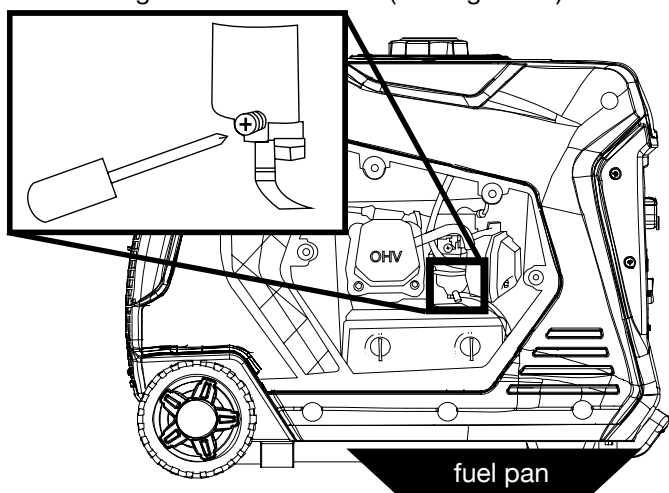

Figure 17: Loosen Float Bowl Screw
3. Loosen the float bowl drain screw until fuel is seen draining from the float bowl (see Figure 17).